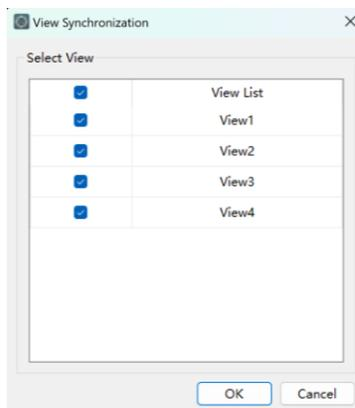

Figure 3-36 View synchronization settings
- (1) Click the menu <View>→<Synchronize to view >  .
- (2) By checking the need to link the view, click <OK>. Checked view windows can be synchronized in the browsing process (Figure 3-36).
- (3) Cancel the synchronization: click <View Synchronization> again.